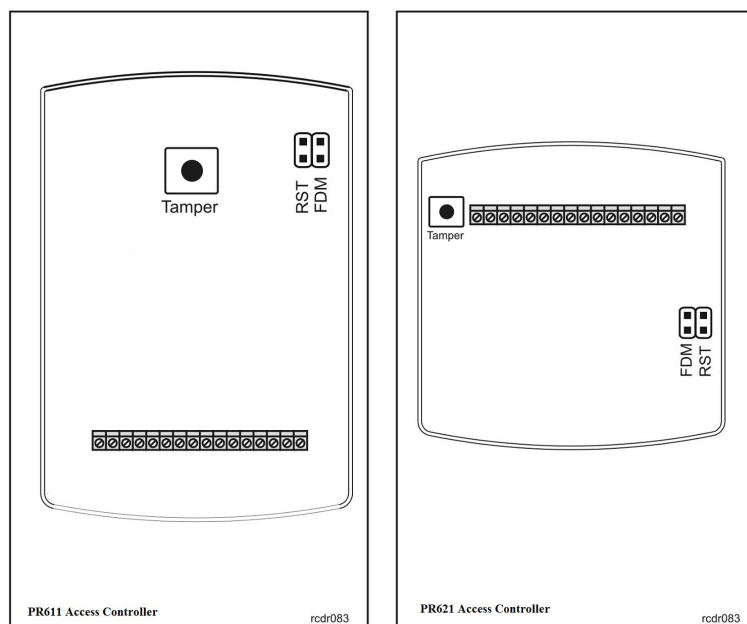

Fig. 6 Location of FDM and RST contacts inside the enclosure of PR611/PR621 controller
- Restart the controller (place and remove jumper on RST contacts – see fig. 6 or switch power supply off/on) – all LED indicators shall be on
- Restart the controller (place and remove jumper on RST contacts – see fig. 6 or switch power supply off/on) – all LED indicators shall be on and continuous acoustic signal shall be generated